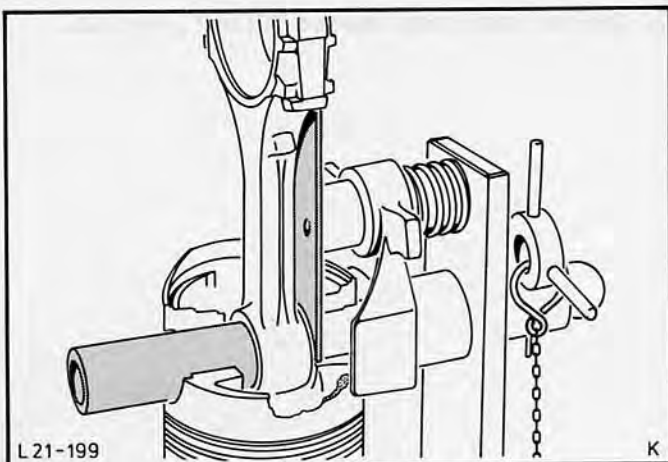

Fig.128. Slide piston pin through bore in connecting rod as far as stop.
10. When the temperature is reached, introduce the connecting rod into the piston as quickly as possible and hold it against the intermediate plate of the installer. Then quickly slide the piston pin through the bore in the connecting rod as far as the stop, Fig.128.